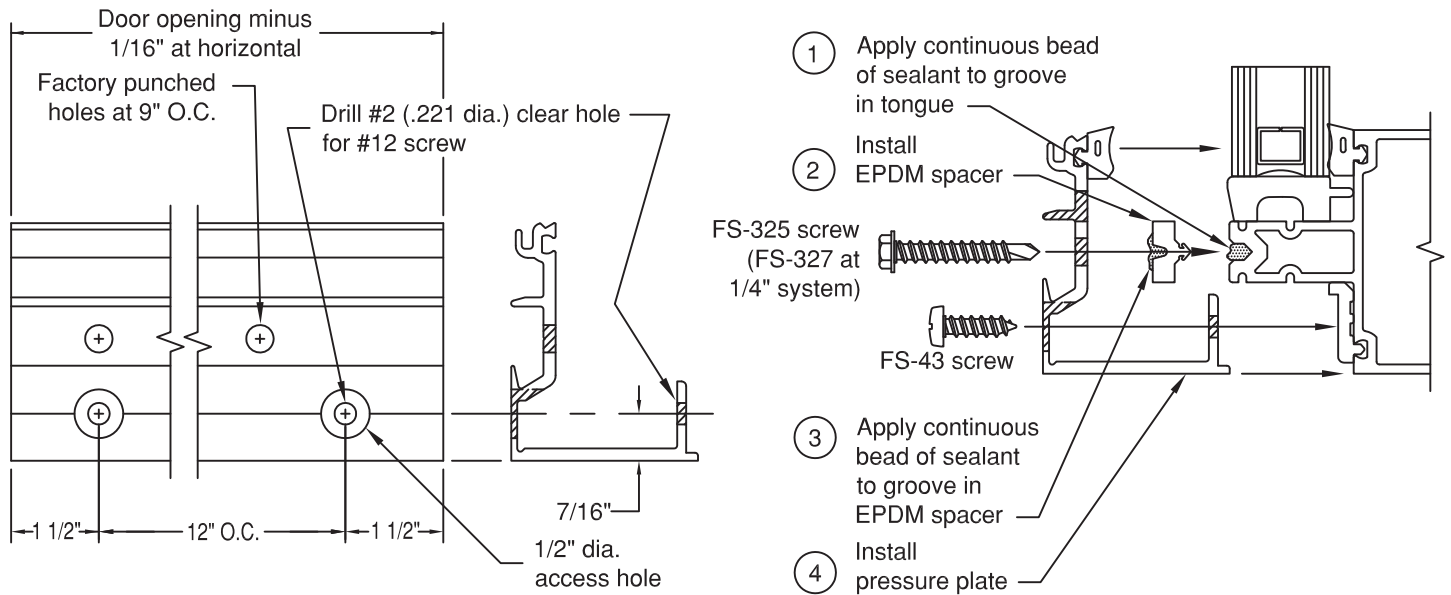

Figure 29
All door framing components are shipped fabricated from the factory. The main curtain wall framing can be erected prior to installing the doors. Lites adjacent to doors must be temporarily secured in place until after door framing is installed. Refer to FIGURE 29 for door header fabrication and installation instructions.
C.3.4 Apply continuous seal to horizontal tongue before installing horizontal pressure plate. Seal ends of horizontal pressure plate to vertical pressure plates. **SEE FIGURE 29.**